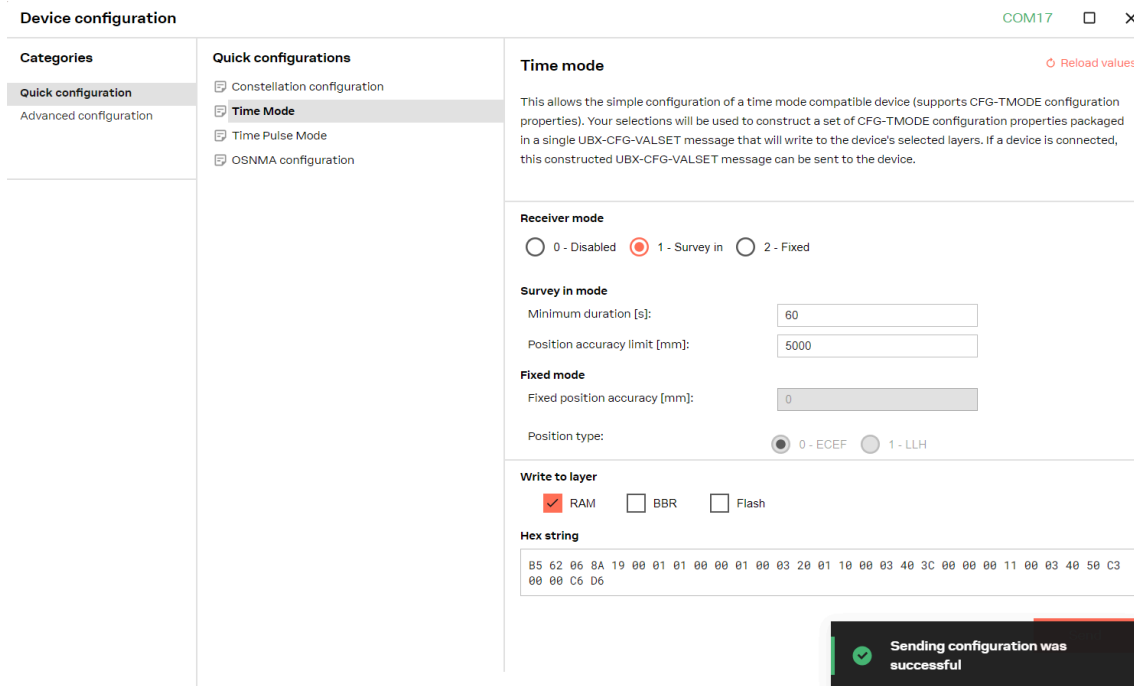

Figure 9: Configuring survey-in with u-center 2
2. Set the receiver in the base mode by enabling a survey-in procedure or specify fixed coordinates via items within the Time Mode of Quick configuration window. An example of survey-in configuration is shown in Figure 9.